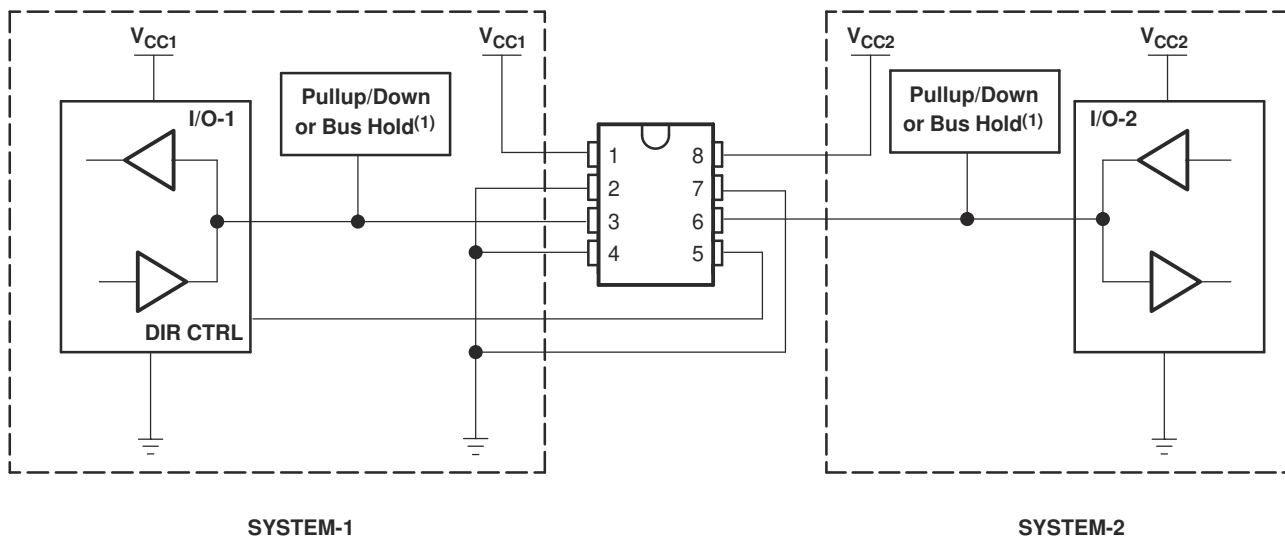

图 9-2. Bidirectional Logic Level-Shifting Application
图 9-2 shows the SN74LVC2T45 being used in a bidirectional logic level-shifting application. Because the SN74LVC2T45 does not have an output-enable (OE) pin, the system designer should take precautions to avoid bus contention between SYSTEM-1 and SYSTEM-2 when changing directions.